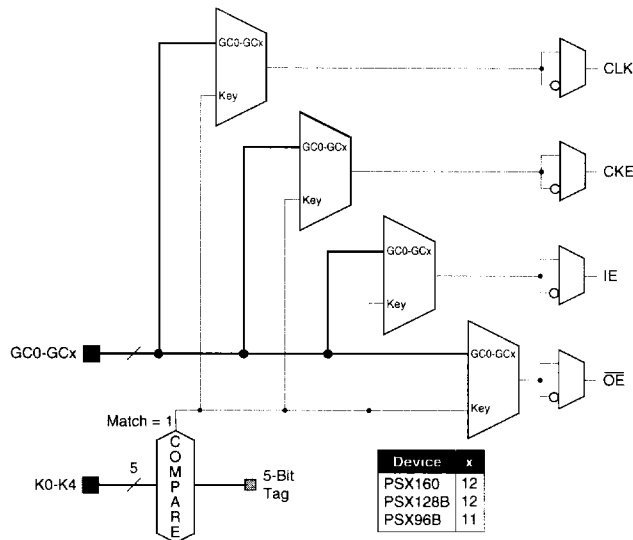

Figure 9: I/O Control
The PSX family has a flexible control structure that gives the user complete control over the behavior of each I/O Port. As shown in Figure 9 and described below, clock (CLK), clock enable (CKE), input enable (IE) and output enable ($\overline{OE}$) for each I/O Port can be selected from two different sets of control inputs. The control polarity can be individually selected.